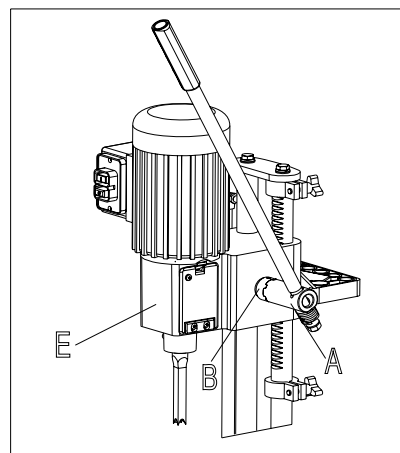

Fig 3
2. Raise mortising machine head (E) Fig. 3, to the up position by turning handle (A) clockwise. **NOTE:** Handle (A) is spring-loaded and can be repositioned by pulling out handle and repositioning it on pinion shaft (B).